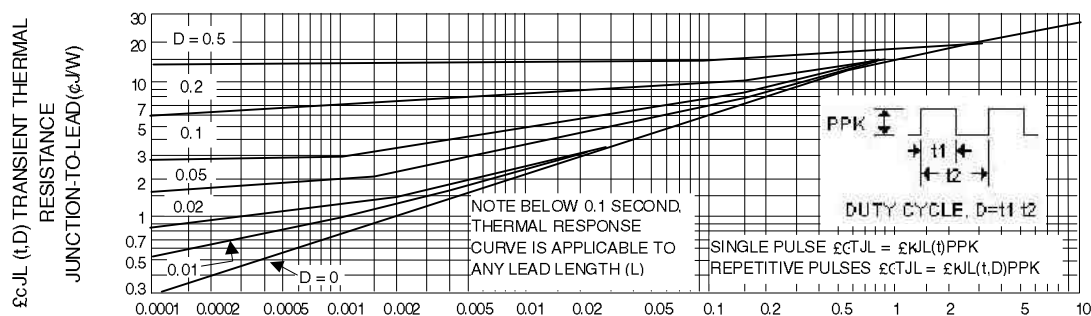
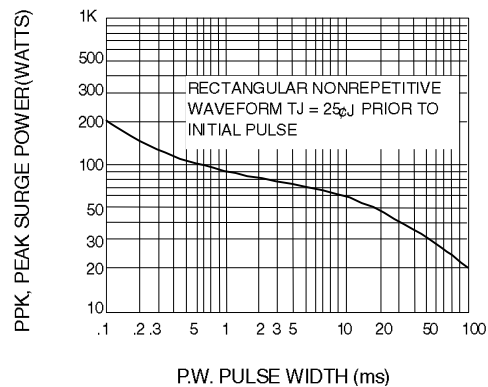
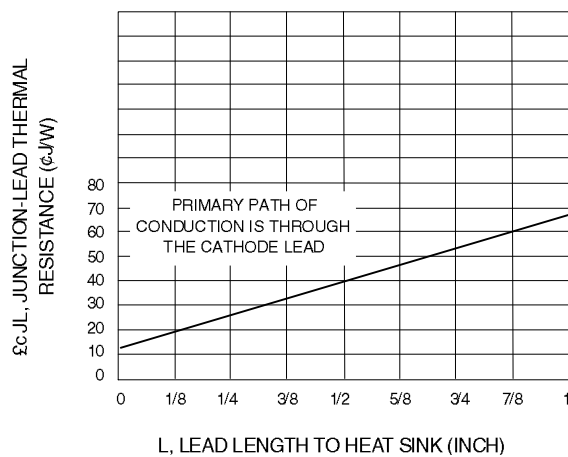

Fig. 2-TYPICAL THERMAL RESPONSE L,
Fig. 3-MAXIMUM SURGE POWER
Fig. 10-TYPICAL THERMAL RESISTANCE
4. SURGE CURRENT ( $I_r$ ) NON-REPETITIVE - The rating listed in the electrical characteristics table is maximum peak, non-repetitive, reverse surge current of 1/2 square wave or equivalent sine wave pulse of 1/120 second duration superimposed on the test current,  $I_{ZT}$ , per JEDEC standards, however, actual device capability is as described in Figure 3.
$\Delta T_{JL}$  is the increase in junction temperature above the lead temperature and may be found from Figure 2 for a train of power pulses or from Figure 10 for dc power.
Data of Figure 2 should not be used to compute surge capability. Surge limitations are given in Figure 3. They are lower than would be expected by considering only junction temperature, as current crowding effects cause temperatures to be extremely high in small spots resulting in device degradation should the limits of Figure 3 be exceeded.